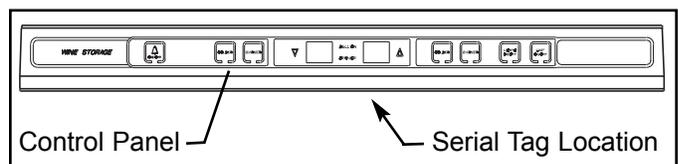

Figure 1-1. Serial Tag Location
- *The serial number tag for models 427, 427R, and 430 is located on the bottom side of the compartment divider, directly behind the control panel. (See Figures 1-1, 1-2) For model 424 it is on the upper compartment ceiling (not shown)*